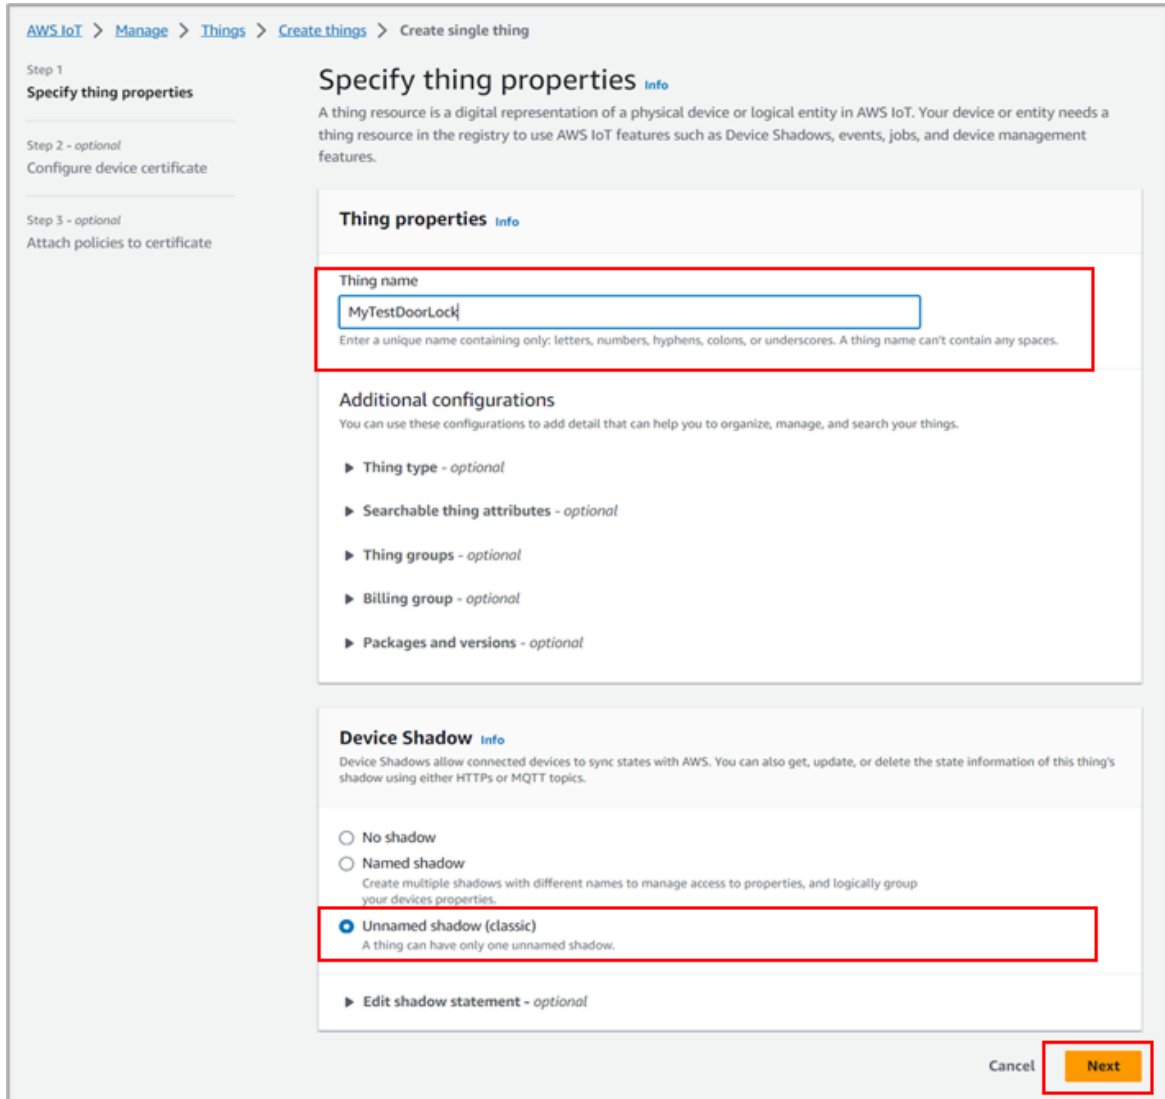

Figure 20. Thing properties
4. Specify the needed thing properties, in the **Thing name** field, enter a device name, for example, "MyTestDoorLock", and on the **Device Shadow**, select **Unnamed shadow (classic)** and click **Next**, see Figure 20.